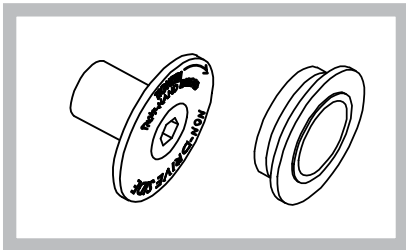

Figure 3
3. BTO016—Non-Drive Side RIGHT HAND THREAD Fixing Bolt and wheel offset washer (Figure 3)